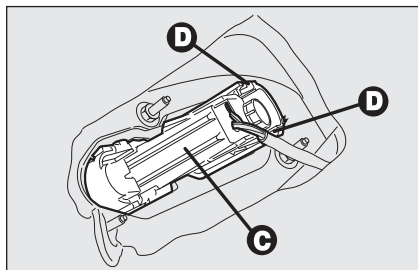

fig. 38
- remove the bulb holder unit **C-fig. 38** by pressing the retaining tabs **D**.
- refit the bulb holder unit securing it properly using the retaining tabs **D-fig. 38**;